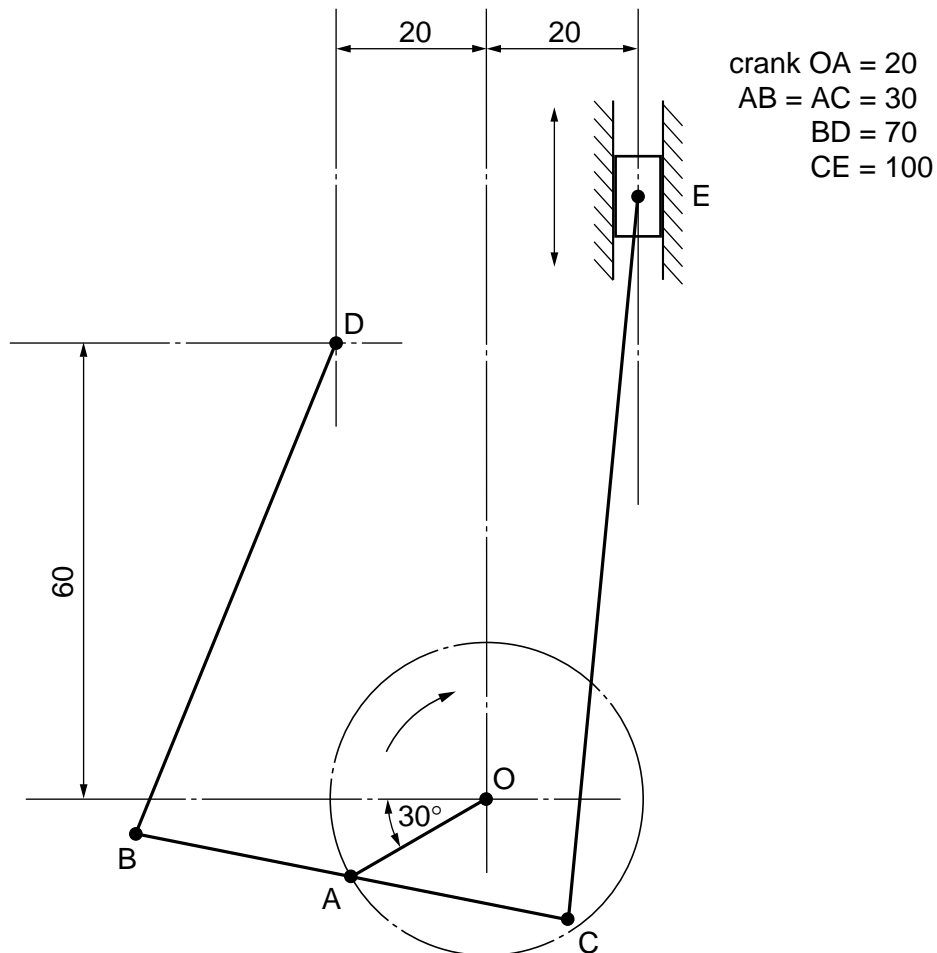

Fig. 2
- 3 Fig. 2 shows diagrammatically the outline of a mechanism. The crank OA rotates about a fixed centre O. The coupler BC is pin jointed to the crank at A. The link BD is pin jointed to the coupler at B and pivots about the fixed point D. The connecting rod CE is pin jointed to the coupler at C and to the piston E which is constrained to move in a straight vertical path.